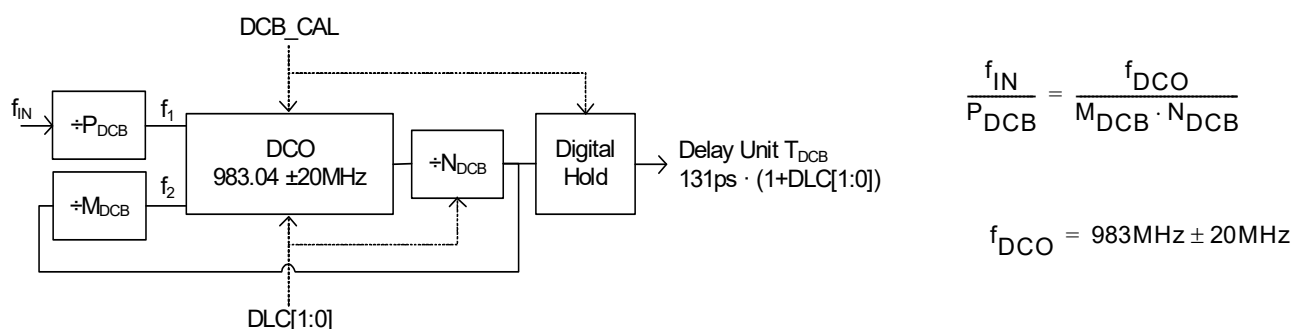

Figure 7. DCB Functional Diagram
The DCB sets the SYSREF delay unit by providing a reference signal to the QREF\_r delay circuits. Figure 7 shows the functional diagram. The DCB requires configuration and calibration. Verification of the calibration is optional.
**Configuration:** Select a desired delay unit and corresponding DLC multiplier from Table 22. DLC[1:0] also sets the  $N_{DCB}$  divider. Then, find a  $P_{DCB}$  and  $M_{DCB}$  divider configuration to locate the oscillator frequency into the range of  $f_{DCO} = 983.04\text{MHz}$  according to the formula in Figure 7. The DCO lock condition is  $f_1 = f_2$  while both  $f_1$  and  $f_2$  must be lower than 200MHz. For instance, if  $f_{IN} = 245.76\text{MHz}$  and the smallest possible SYSREF delay unit is desired, set DLC = 1 (DLC[1:0] = 00; also sets  $N_{DCB} = \div 1$ ). Then, set  $P_{DCB} = \div 24$  and  $M_{DCB} = \div 96$ . As a result,